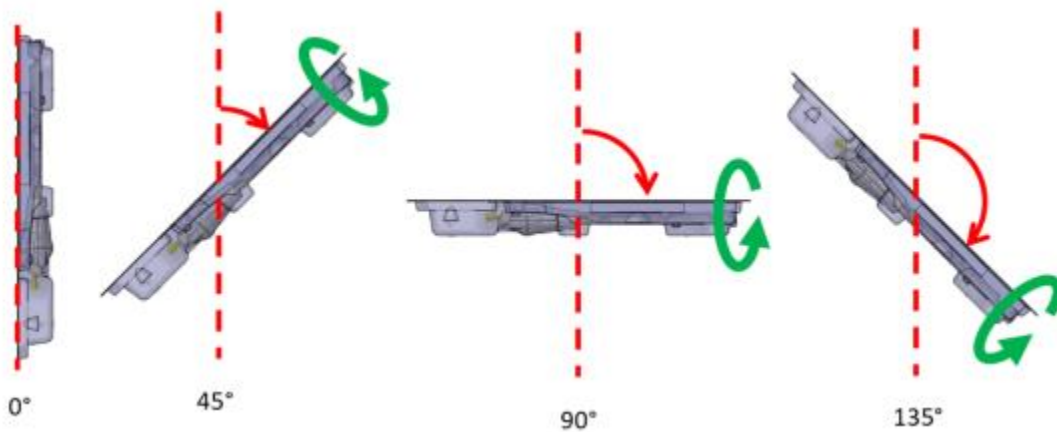

Figure 10: Recommended procedure for purging air from ultrasound applicator
- b. While the purging operation is on, hold the UA in its package—be careful not to touch the UA handle to keep the UA sterile. Tip the package upwards in the 0° position, then tilt to approximately 45°, then 90°, and 135°. At each angle, slowly rotate the package approximately 360° (Figure 10).